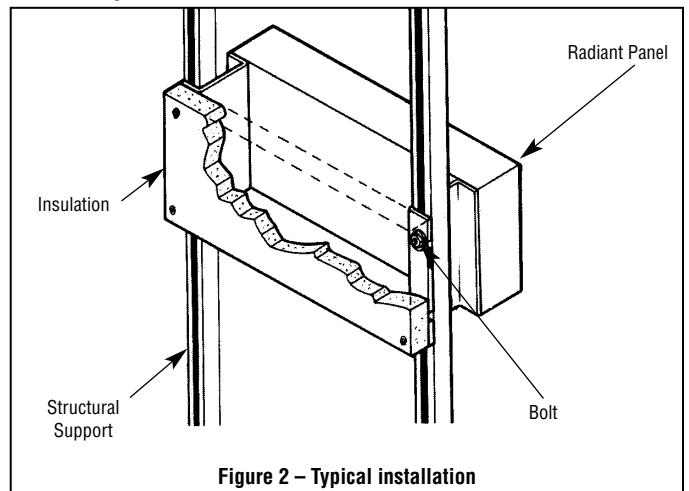

Figure 2 – Typical installation
2. **Assembly:** Position U-RP radiant panel on fabricated structural support and attach using 1/2" diameter bolts of suitable length (see Fig. 2).
3. **Insulation:** Where unusually high work temperatures are encountered, it may be desirable to insulate backs of heaters with high temperature fibrous insulation. A suggested method of accomplishing this is indicated in Figure 2.